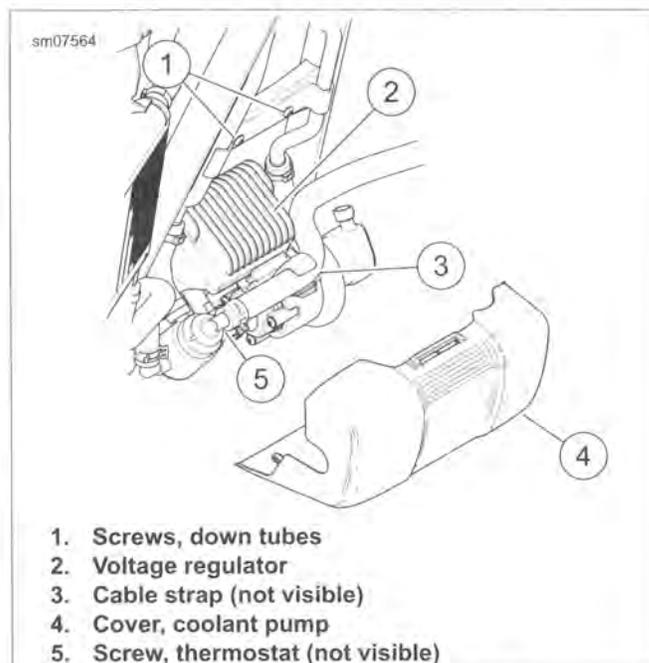

Figure 7-63. Cooling Components
- a. See Figure 7-63. Remove coolant pump cover (4). Cut cable strap (3).
- b. Remove screws (1) securing coolant downtubes.
- c. Remove screw (5) securing thermostat.
- a. See Figure 7-63. Install screw (5) securing thermostat. Tighten to 48-60 **in-lbs** (5.4-6.8 Nm).
- b. Install screws (1) securing coolant down tubes. Tighten to 90-110 **in-lbs** (10.2-12.4 Nm).
- c. Install **new** cable strap (3). Install coolant pump cover (4).